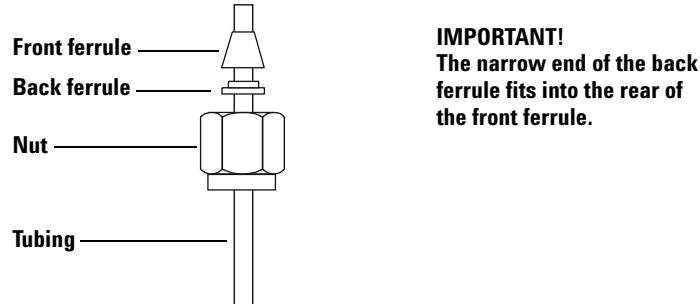

Figure 7 Swagelok nuts and ferrules
- 1** Place a Swagelok nut, back ferrule, and front ferrule to the tubing as shown in Figure 7.